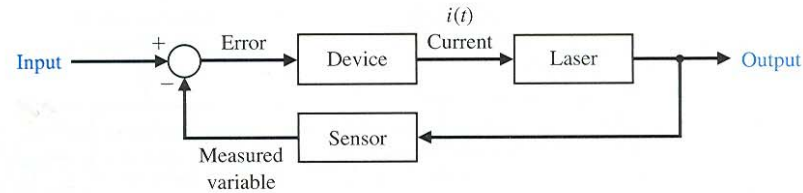

FIGURE E1.1
- E1.1** A precise optical signal source can control the output power level to within 1% [32]. A laser is controlled by an input current to yield the power output. A microprocessor controls the input current to the laser. The microprocessor compares the desired power level with a measured signal proportional to the laser power output obtained from a sensor. Complete the block diagram representing this closed-loop control system shown in Fig. E1.1, identifying the output, input, and measured variables and the control device.